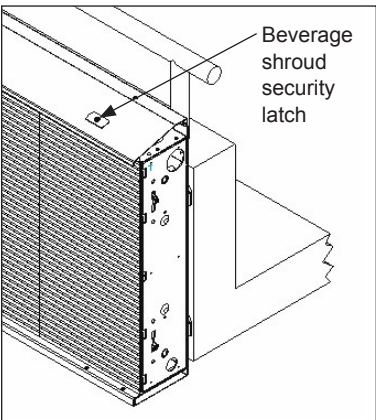
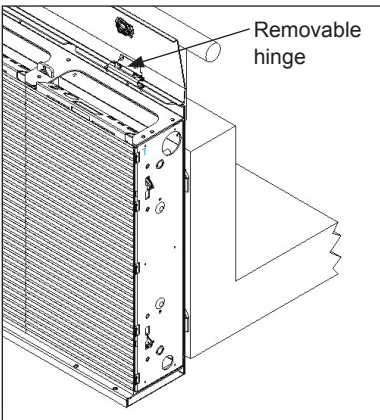

Figure 38: Accessing Beverage Shroud
Figure 39: Accessing Beverage Shroud
- 2. Use a 5/16" hex security bit (Daktronics part number TH-1170) to release the beverage shroud security latches. The beverage shroud may be left on in a flipped-up position or removed by rotating it up and unhooking the spring-loaded hinge pins. Refer to Figure 38 and Figure 39.